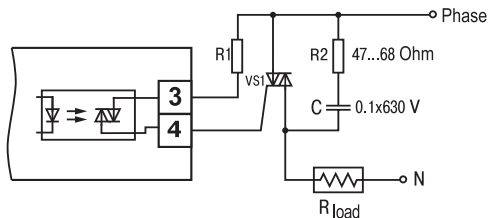

Figure 17.
3.1.10.2. Optotriac is included in the control circuit of a powerful triac through limiting resistor R1 as shown on figure17. Ohmage of the resistor defines the triac control current.